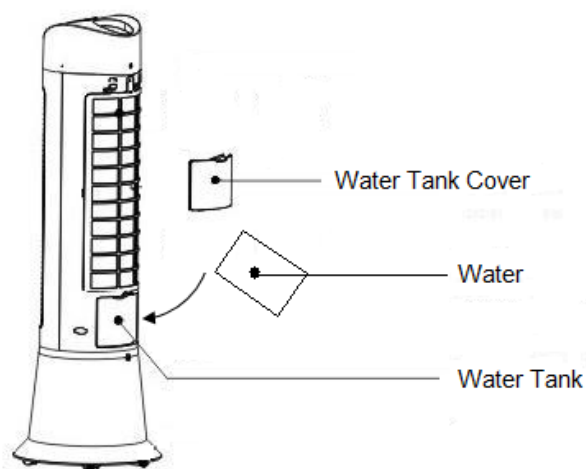
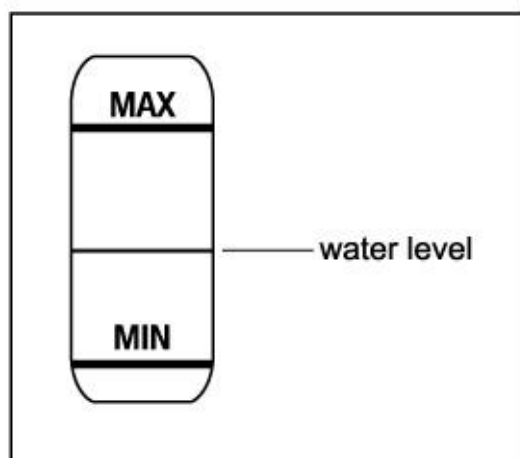

Figure 1
Figure 2
- Open the water tank cover on the lower back of the appliance and add water into the water tank (Figure 1). Observe the water level through the watermark to control the water amount (Figure 2).